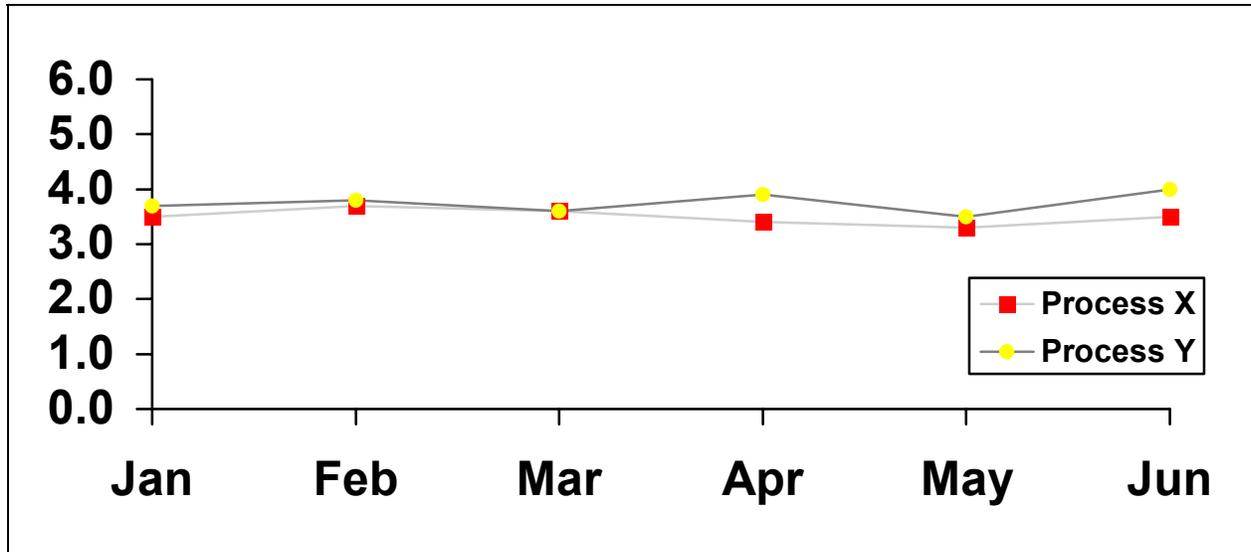

Figure 16 - A Comparison Example
**5. Comparison Capability** - With the defect-based sigma scale providing variance for process complexity, similar processes can be compared to determine overall performance and improvement opportunities. This comparison identifies those best-in-class and benchmark candidate processes utilizing an objective vs. subjective approach. For example, look at the metric in figure 16.